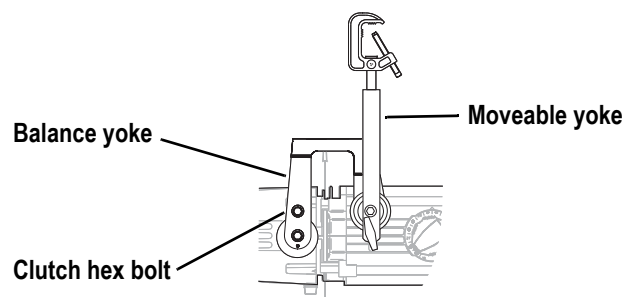

Figure 12
- Step 2: Adjust the balance yoke so it is perpendicular to the luminaire as shown in Figure 12. If front of the luminaire has several accessories attached, you may need to tilt the balance yoke towards the front of the luminaire to adjust the balance.